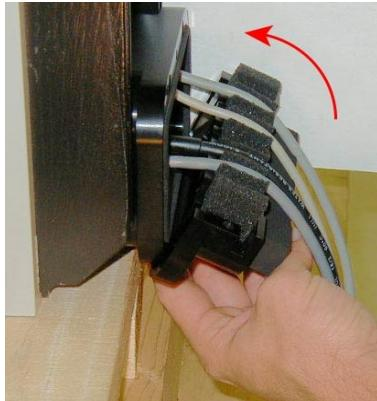

Figure 8-4. Installing Lower Flange
- a. Tilt the flange away from the robot as you install it—see Figure 8-4.